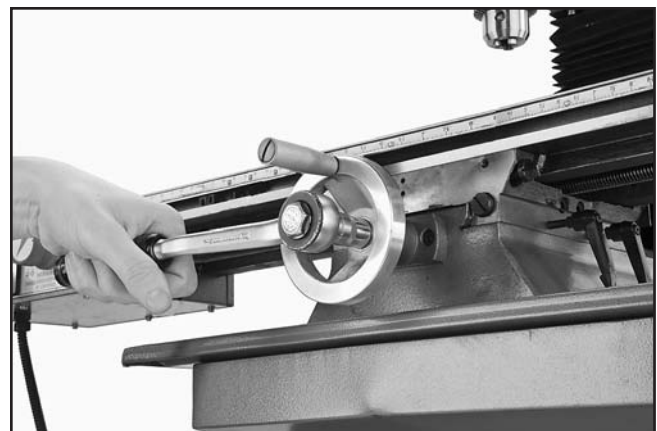

Figure 11. Removing the crossfeed handwheel.
11. Using a 13mm socket wrench, remove the crossfeed table handwheel, as shown in **Figure 11**.